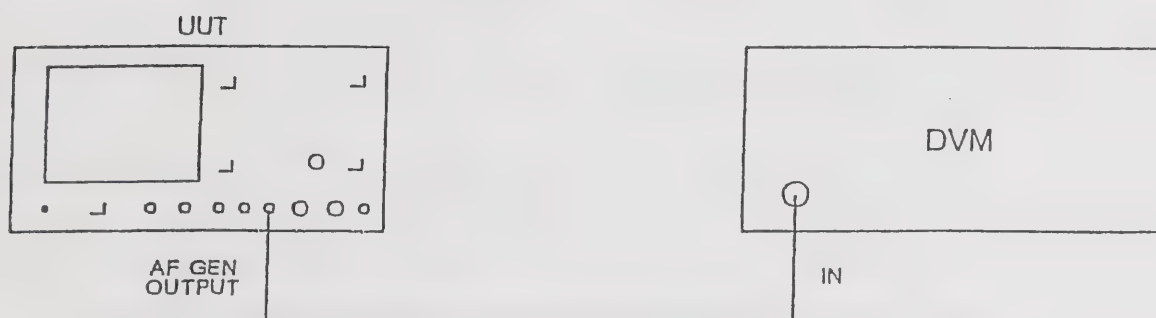

Fig. 3-10 Test equipment connections for adjusting R1 on AB6/1
- (1) Connect the equipment as shown in Fig. 3-10.
- (2) Set the UUT to AUDIO TEST.
- (3) Set the UUT AF GEN 1 frequency to 1 kHz sine wave, level 1 V. Ensure that AF GEN 2 is switched off.
- (4) Set the DVM to measure AC.